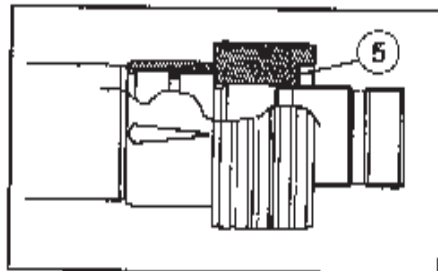

Fig. 23
- 5 Fit shims (reduction of friction) (Fig. 23).